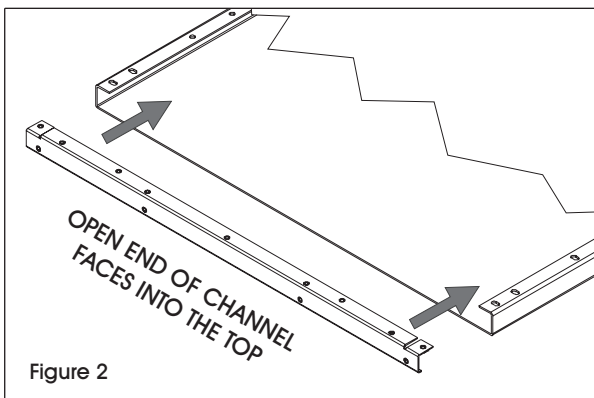

Figure 2
1. Insert top end channel in each end of tabletop. (See Figure 2)